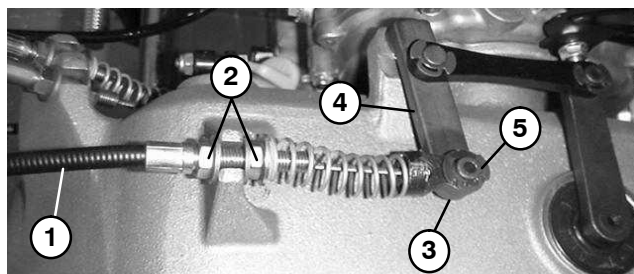

Figure 9
3. Remove reel control cable from the gearbox as follows (Fig. 9):
2. Route reel control cable to the gearbox. Install cable to the gearbox as follows (Fig. 9):